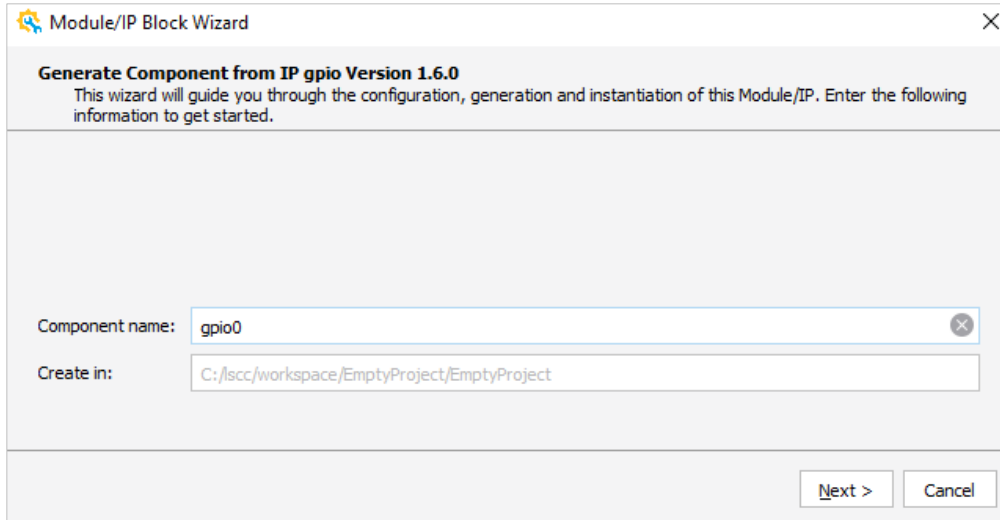

Figure 2.19. Module/IP Block Wizard – Generate Component from Module gpio Version 1.6.0
2. From the **IP on Local** tab, select a desired IP, such as GPIO. Double-click the IP module or drag and drop the IP module to the **Schematic** view. A Module/IP Block wizard pops up (Figure 2.19).